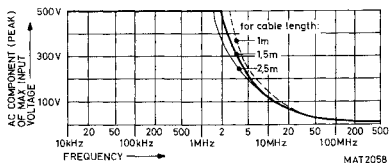

Figure 16.2. AC component (pk) of max. input voltage v.s. Frequency
0...2 MHz approx. for derating see figure 16.2.